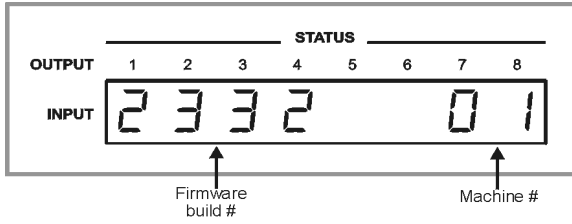

Figure 15: Status Display 5 Seconds After Turn On
2. The firmware build number and machine number for the following five seconds (see Figure 15).